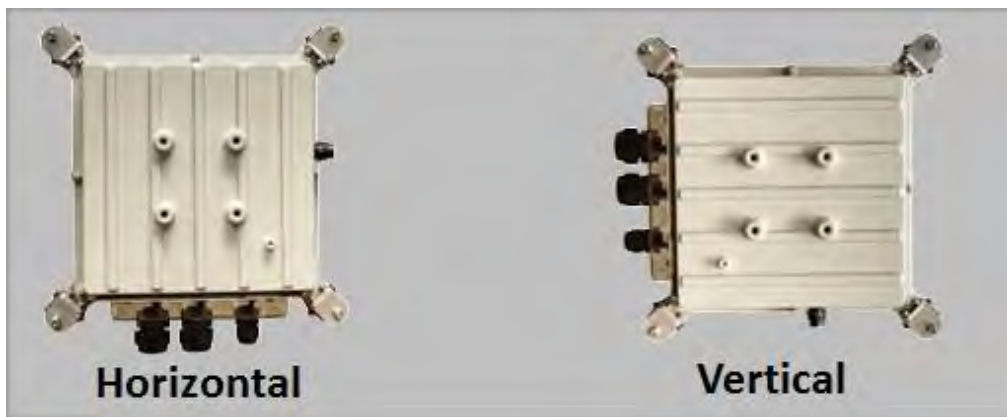

Figure 6-2: ODU Polarization Orientation
The radio operates in horizontal polarization when the cable glands on the plastic cover point downwards and in vertical polarization when the cable glands point sideways (see Figure 6-2).
1. Connect the digital voltmeter to the 2-pin connector on the side of the radio housing (see Figure 6-2) using the RSSI Alignment Cables included with the system. Make sure that the digital voltmeter readout can be clearly seen during the installation process (e.g. Tape it to the installation pole). Alternatively, use an Android smartphone/tablet and download the LightPointe Bluetooth™ (BLE) application from the GOOGLE PLAY STORE